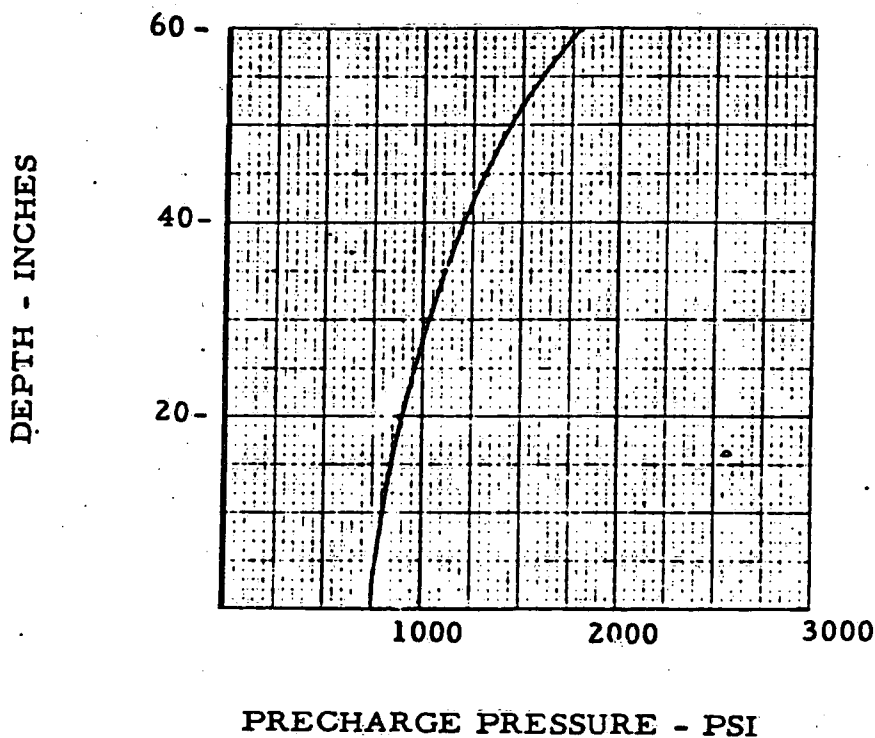

Figure 5: Nitrogen Pressure Chart
- 4.4 Determine the required nitrogen pressure, to apply to the waveboard, for the particular water depth using the chart in Figure 5. Set the nitrogen pressure at the gas cylinder located near the MTS Hydraulic Power Supply.